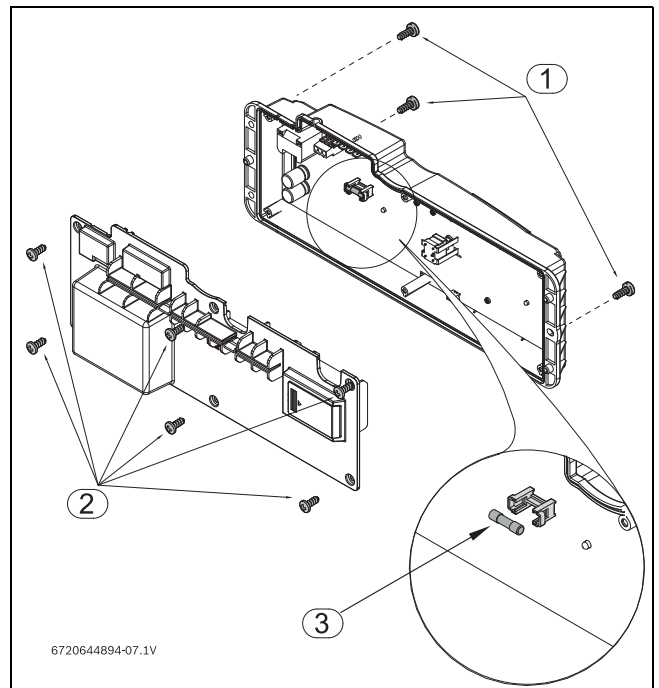

Fig. 50 Fuses position
- ▶ Remove the six screws from the back cover of the control unit, see fig. 50, pos. 2.
- ▶ Check the fuses in the printed circuit board, see fig. 50, pos. 3.